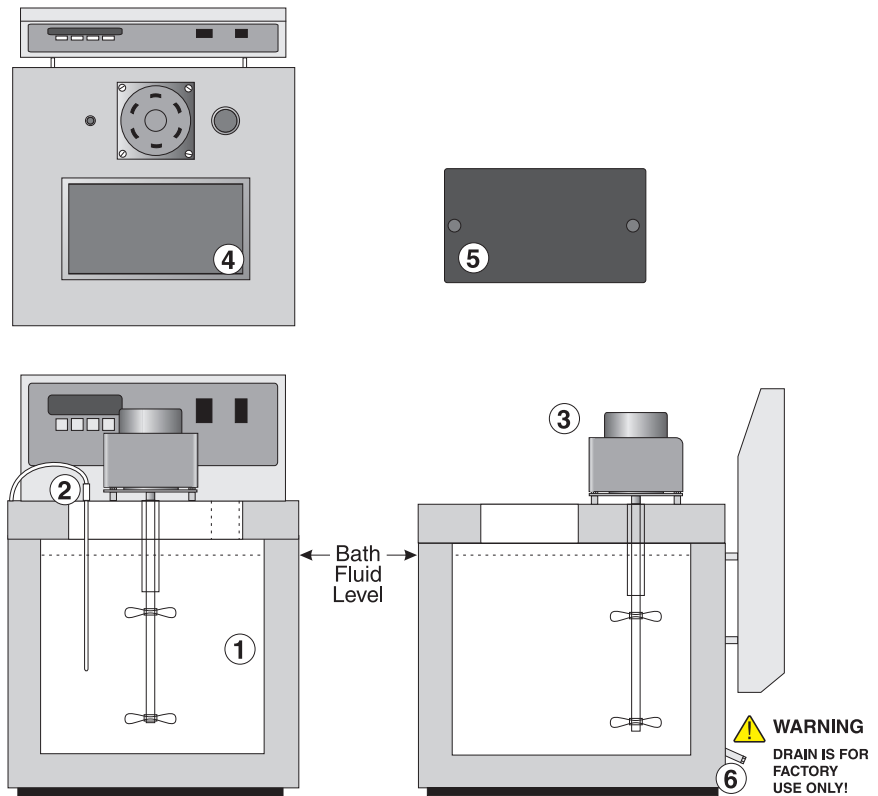
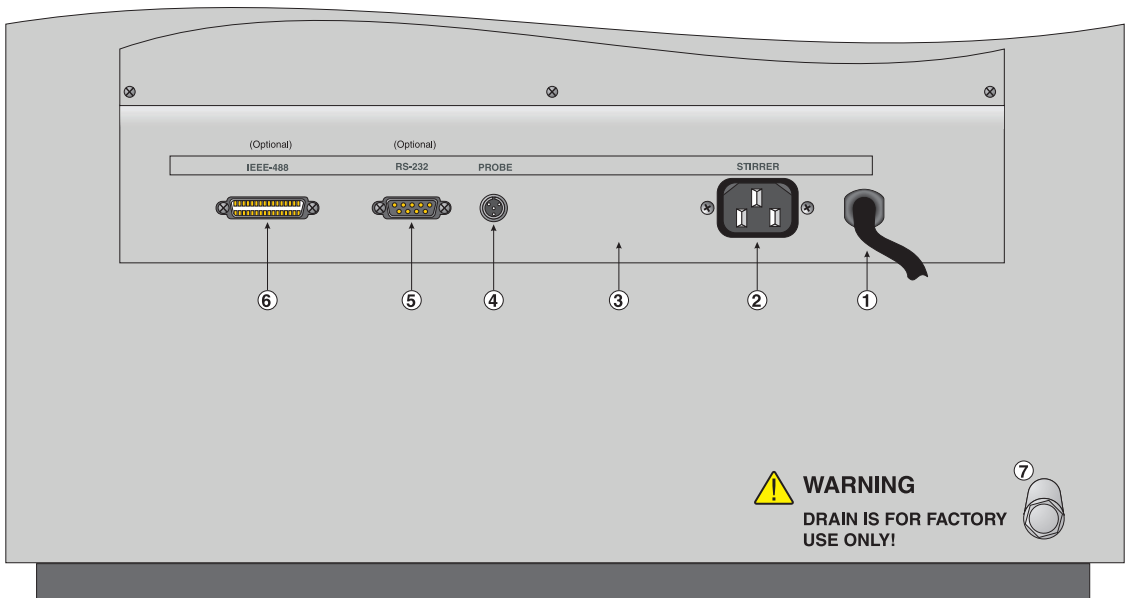

Figure 4 Bath and Lid Components
Figure 5 Back Panel Features
Before filling the bath make sure the drain is well plugged (see Figure 4 and Figure 5 on pages 24 and 26). When using heat transfer salt you must follow a special procedure in filling and heating the bath because the salt is solid at lower temperatures. See Section 8.1.2.
Disconnect power to the stirrer if at any time the material in the bath is solid and prevents the stirrer from turning. Fill the bath with clean unpolluted salt. Fill the bath carefully through the large square access hole to a level that will allow for stirring and thermal expansion. Under-filling may reduce bath performance and may possibly damage the bath heater. The salt should never exceed a height of 1/2” below the top of the tank. See Figure 4 on page 52 for reference to the fluid level with regards to the top of the tank and the lid of the bath. Carefully monitor the bath fluid level as the bath temperature rises to prevent overflow or splashing. Use caution to prevent bath fluid from spilling on the stir motor while filling.
Inspect the bath controller probe (see Figure 4 on page 24). It should not be bent or damaged in any way. Reasonable caution should be used in handling this probe as it contains a precision platinum sensor and is mechanically shock
Be sure the stirring motor power cord is plugged into the “STIRRER” socket at the back of the bath (see Figure 5 on page 26).
(5) The heater power switch is used to select the appropriate heater power levels for heating and controlling temperatures.
The bath tank and lid assembly includes (see Figure 4 on page 24): (1) the tank, (2) the control probe, (3) the stirring motor, (4) the access holes, (5) the access hole cover, and (6) the drain tube.
- (1) The bath tank is constructed of stainless steel. It is very resistant to oxidation in the presence of most chemicals and over a wide range of temperatures.
- (2) The control probe provides the temperature feedback signal to the controller allowing the controller to maintain a constant temperature. The control probe is a precision platinum resistance thermometer (PRT). The control probe is delicate and must be handled carefully. The probe is placed in the small hole in the top of the bath so that the probe tip is fully immersed in the bath fluid. The probe cable connects to the bath at the probe connector on the back panel.
- (3) The stirring motor is mounted on the bath tank lid. It drives the stirring propeller to provide mixing of the bath fluid. Proper mixing of the fluid is important for good constant temperature stability. The stirring motor power cord plugs into the back of the bath at the power socket labelled “STIRRER”.
- (4) On the bath lid is a large rectangular access hole and a small circular access hole. These holes are used for placement of thermometers and devices into the bath. When possible the access holes should be covered.
- (5) An access hole cover is recommended to cover the large square access opening in the top of the bath. This improves bath temperature stability, prevents excess fluid evaporation or fumes and increases safety with hot fluid. The user may drill or cut holes in the cover to accommodate the instruments to be calibrated or immersed in the bath. Spare covers are available from Hart Scientific.
- (6) The drain tube, located at the lower left corner of the bath, is for factory use only.
The back panel of the bath contains the following features (see Figure 5 on page 26): (1) the bath power cord, (2) the stirring motor power socket, (3) the internal fuses, (4) the probe socket, (5) the RS-232 interface connector (optional), (6) the IEEE-488 interface connector (optional), and (7) the drain tube.
Power to the bath is provided by an AC mains supply. See Section 3.1, Specifications, for power details. See Figure 5 on page 26. Power to the bath passes through a filter to prevent switching spikes from being transmitted to other equipment.
The drain at the back of the bath (see Figure 5 on page 26) is *for factory use only*. During operation of the bath the drain plug must be screwed on tightly.
The controller allows the operator to set the bath temperature with high resolution, set the cutout, adjust the proportional band, monitor the heater output power, and program the controller configuration and calibration parameters. The controller may be operated in temperature units of degrees Celsius or Fahrenheit. The controller is operated and programmed from the front control panel using the four key switches and digital LED display. The controller may also be optionally equipped with an RS-232 serial or IEEE-488 GPIB digital interface (see Figure 5 on page 26) for remote operation. Operation of the controller using the front control panel is discussed in Section 9. Operation using the digital interfaces is discussed in Section 10.